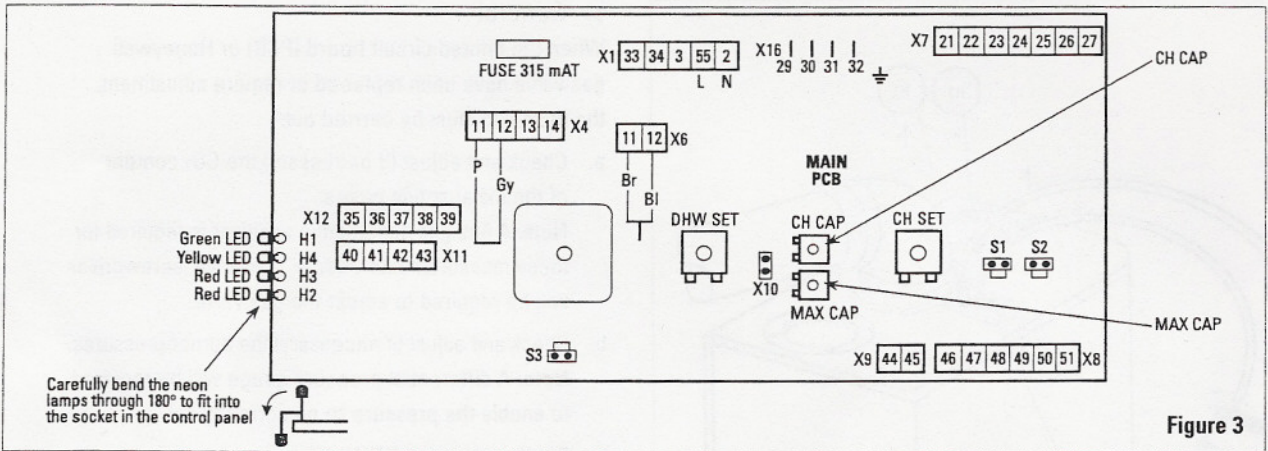
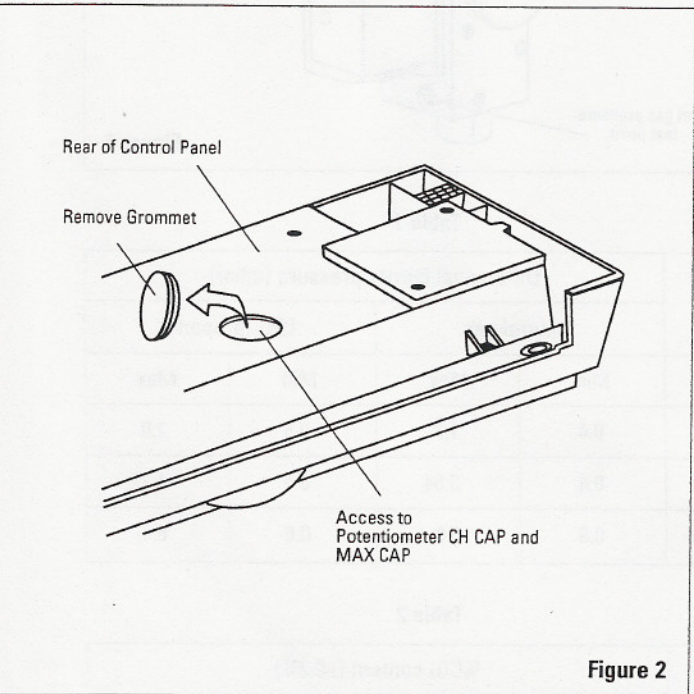
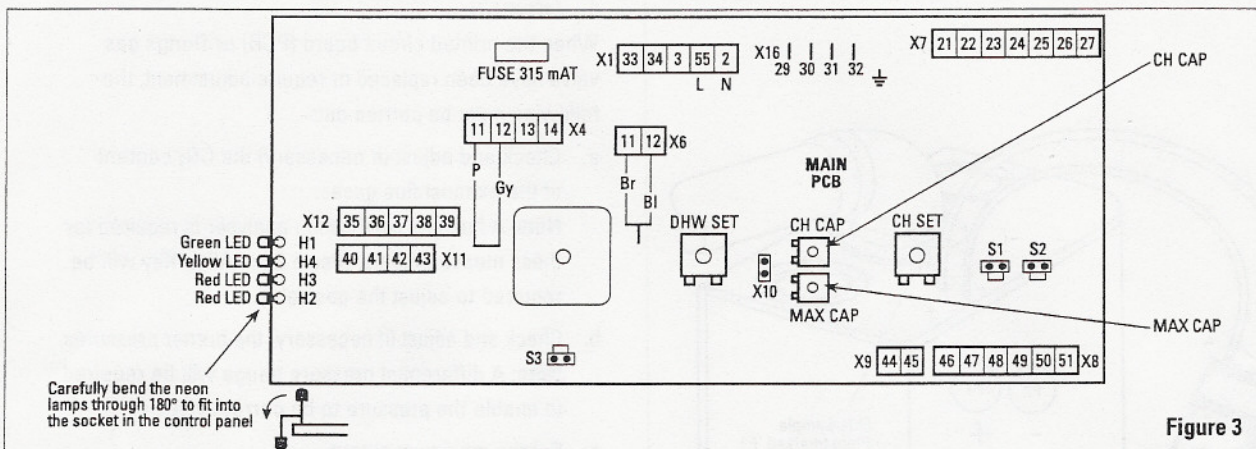

Figure 3
Figure 2
Figure 3
**Note:** Before fitting the PCB, carefully bend the four neons through 180° so that they locate into the control panel, see Fig. 3.
- Remove the grommet in the rear of the control panel (see Fig. 2) to gain access to the PCB. Using a small screwdriver turn the 'CH CAP' potentiometer fully clockwise to maximum output, see Fig. 3.